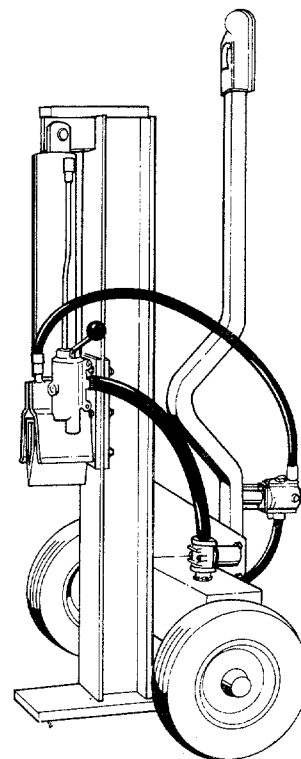

FIGURE 17
4. The tongue can be removed and reattached in an upright position as shown in figure 17 to take less space when storing.